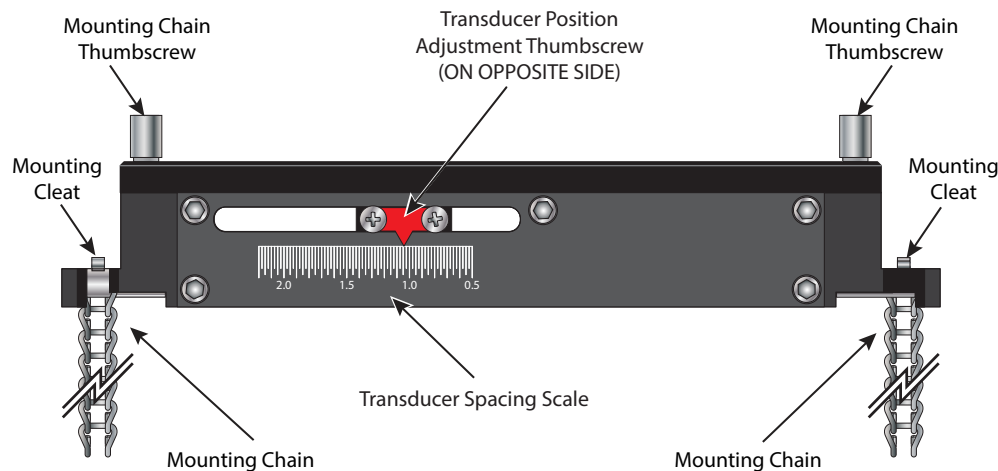

Figure 3: Transducer top view
2. Loosen the position adjustment thumbscrew and slide the transducer along the scale to set the distance between the them. The scale shows the distance in inches. See *Figure 3*.